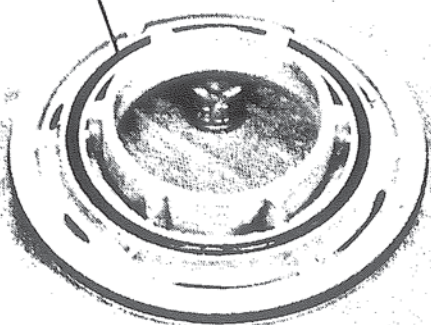

Figure 54. Installing Sealing Ring.
9. Install a well lubricated sealing ring in forward clutch cylinder. Figure 54. Lubricate entire forward clutch cylinder before continuing assembly.